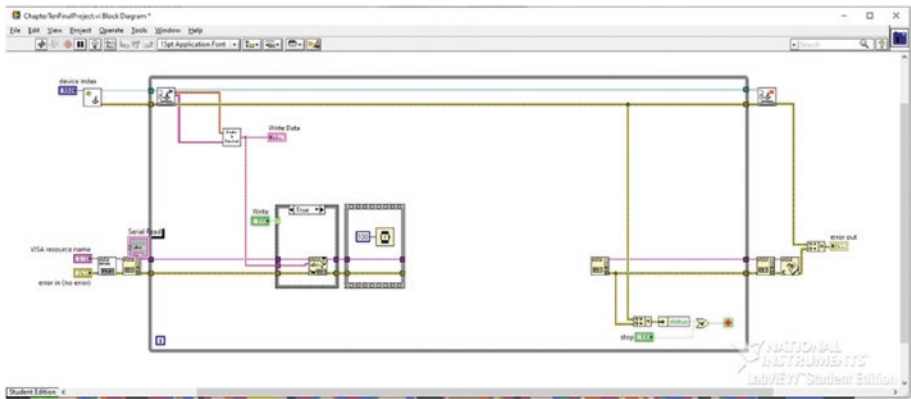

Figure 10-33. *Expand the while loop*
- 7. Move to the Block Diagram and remove the wires between the sequence structure and the flush buffer, and expand the while loop a bit. See Figure 10-33.